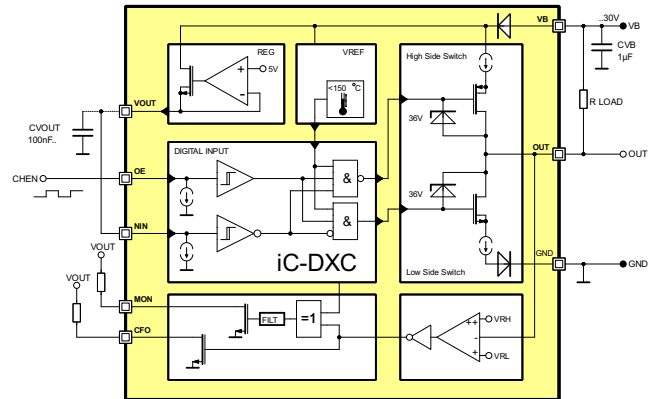
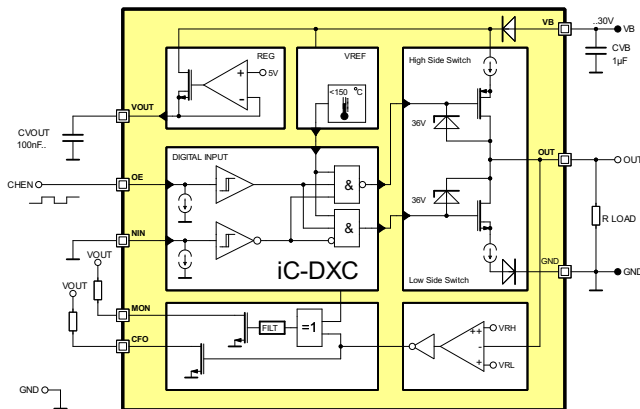
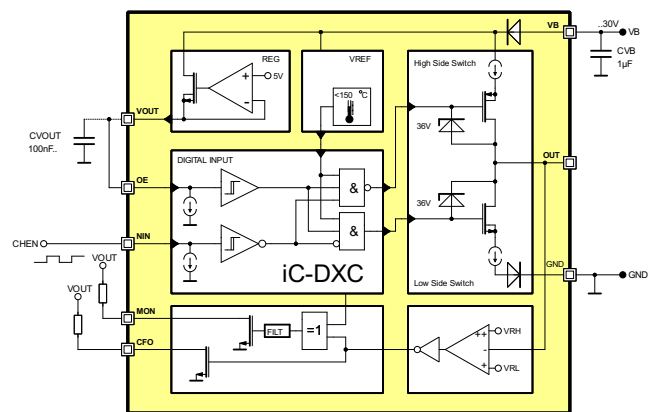

Figure 5: Configuration as Low-Side (NPN-Switch)
Figure 4: Configuration as High-Side (PNP-Switch)
Figure 6: Configuration as Pushpull
The iC-DXC can be operated in high-side (PNP), low-side (NPN) and push-pull (PP) switch mode. Figure 4 shows the high-side operation where NIN pin must be kept low and the OE pin controls the switch. Figure 5 shows the low-side operation where NIN pin must be kept high and the OE pin controls the switch. Figure 6 shows the push-pull operation where OE pin must be kept high and the NIN pin controls the switch. If the OUT signal differs from what declared in tables 4, 5 and 6 (due to external forcing) for more than 14 μs (cf. Electrical Characteristics No. 510), this event will be signalled by a low level at MON output.
Table 5: Output Function table Fig. 5. Low-side mode (NPN-Switch) with external pull-up.
Table 4: Output Function table Fig. 4. High-side mode (PNP-Switch) with external pull-down.
Table 6: Output Function table Fig. 6. Push-Pull mode